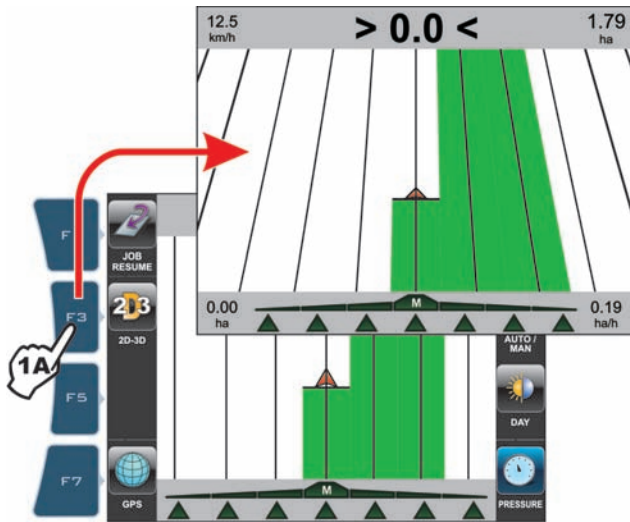

Fig. 264
13.2.3 Toggle from 2D display driving mode to 3D one and vice versa (figures 264 - 265)